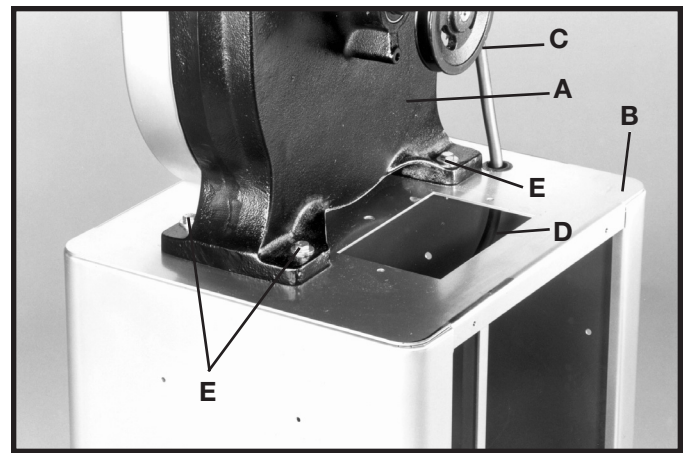

Fig. 6
1. Carefully place the band saw (A) Fig. 6, onto the band saw stand (B). **NOTE:** Position the band saw so the pulley (C) is over the opening (D) in the stand.
2. Align the four holes in the base of the band saw with the four mounting holes in the top of the stand and fasten the band saw to the stand with four  $\frac{5}{16}$ -18 x  $1\frac{3}{4}$  hex head screws, three of which are shown at (E) Fig. 6, with flat washers and flange nuts.